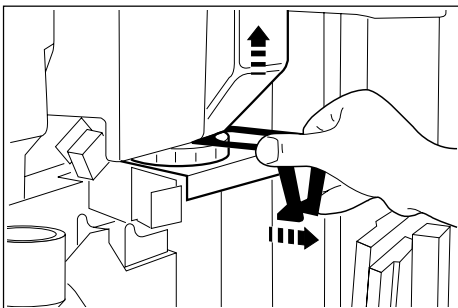

Fig. 31
- Coffee hopper must be periodically cleaned in order to remove any accumulated oil deposited by beans. Pull the closure slide outwards (24) to prevent coffee from spilling out (fig. 31) around. Remove the hopper from its housing, rinse it with lukewarm water, dry and replace it.